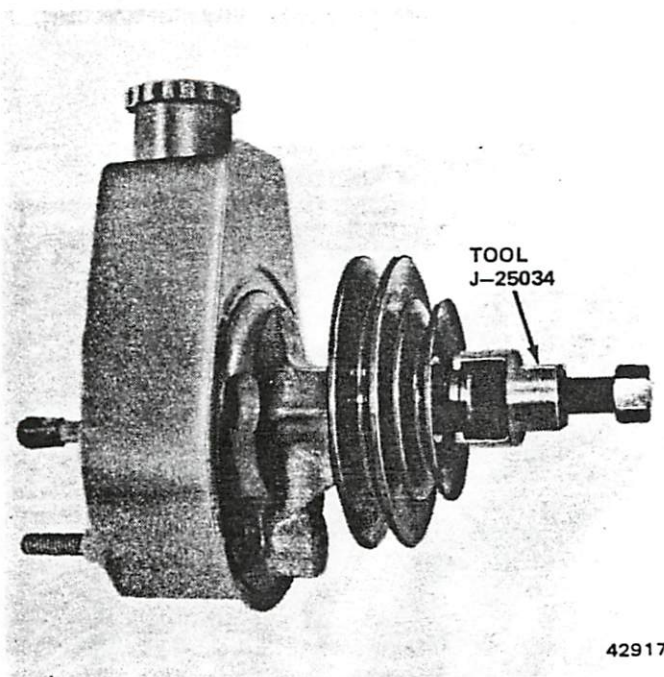

Fig. 2L-46 Pump Pulley Removal
- (1) Loosen pump belt adjusting bolts, push pump toward engine, and remove pump belt.
- (2) Remove pump pulley using Tool J-25034 (fig. 2L-46).